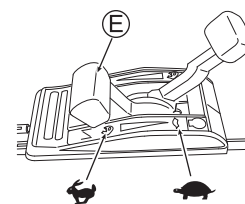

Fig. 14
- Confirm that there is no person behind you when pulling the starter knob (V).
- Securely hold the starter knob (V) when you pull it.
- Return the starter knob (V) slowly.
5. Warm up the machine before use. After the engine has warmed up, start mowing by setting the throttle lever (E) to "N". (See Fig. 14)